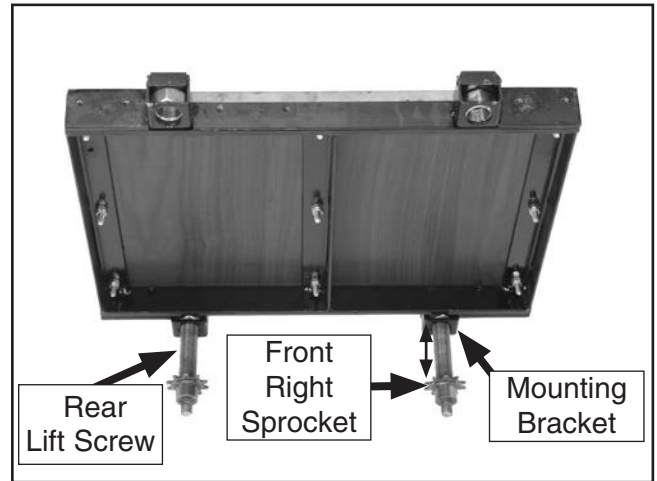

Figure 51. Conveyor belt removed from table.
25. Remove the belt. The table should look like **Figure 51**.